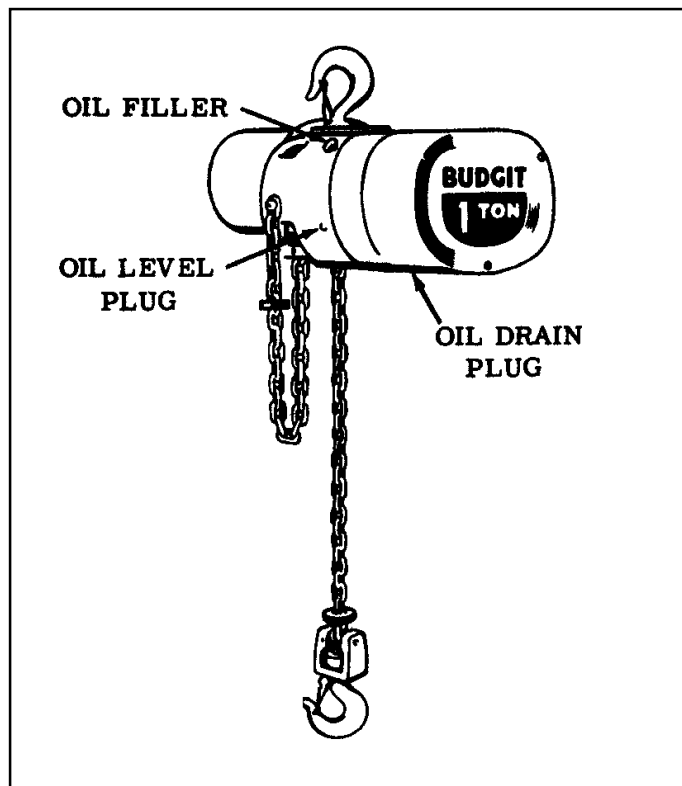

Figure 4-1. Location of Oil Filler and Plugs
4-4. CHANGE GEARCASE OIL (Figure 4-1).
- (1) Check to see that bolts securing motor to frame are tight. Also check for any visible damage to motor, supply head or muffler, such as a cracked or dented housing. Replace damaged parts.
- (2) Check hoist frame for signs of visible damage. If frame shows evidence of fracture, the hoist should be disassembled and inspected for further signs of damage from possible overloading. Replace damaged parts. Also check condition of limit stop.
- e. Check Oil Level. Remove oil level plug (Figure 4-1). If oil level is not even with bottom of tapped hole, add Automatic Transmission Fluid, DEXTRON® Type, to bring proper level.